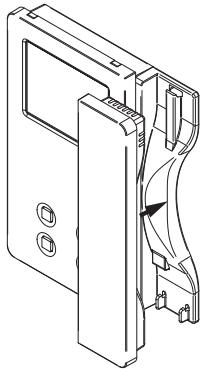

Fig. 9
- Reconnect the handset and hang it as shown in Fig. 9.